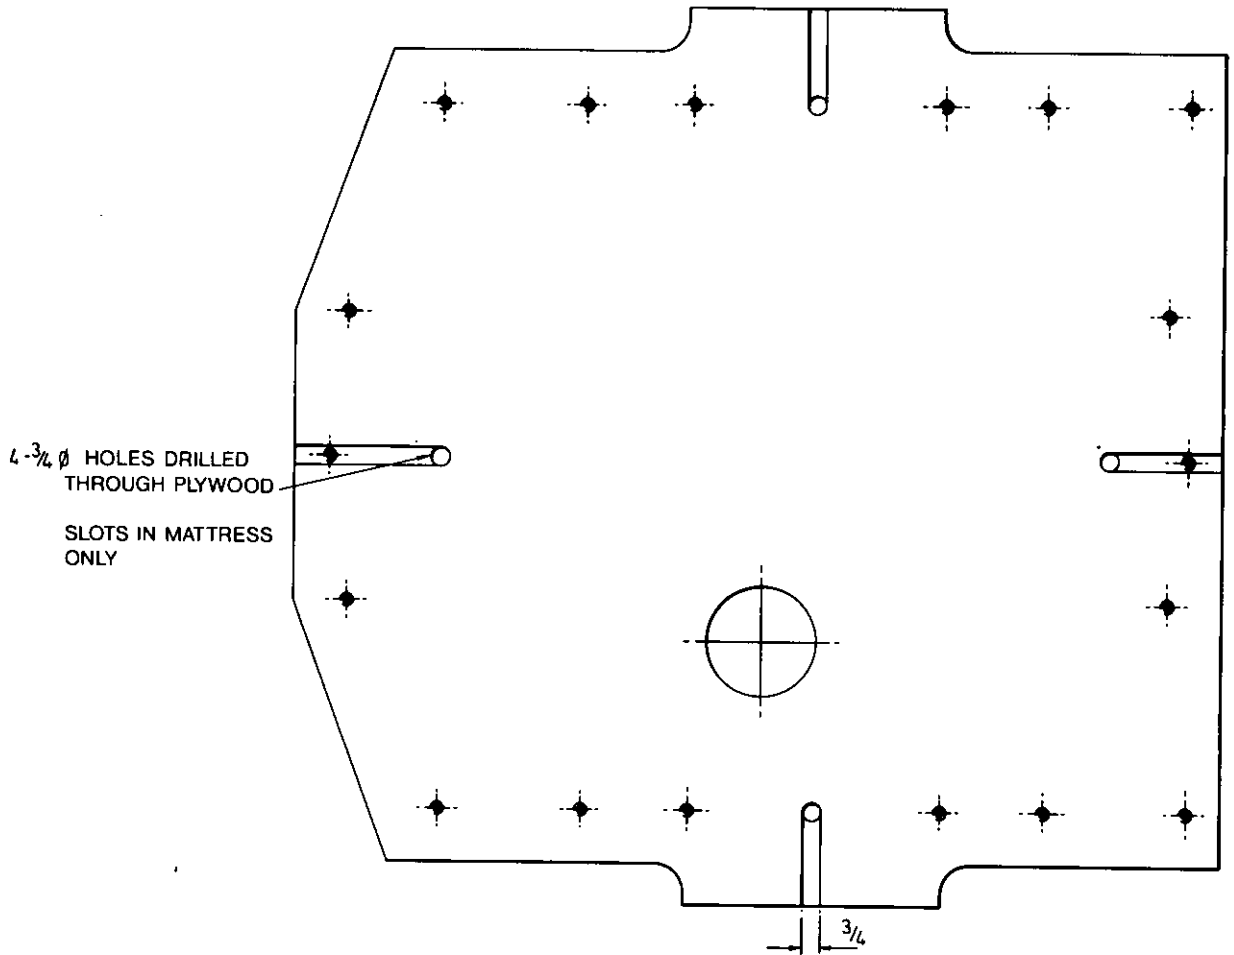

Fig 2 - Shock absorber mattress - hole and slots detail
c. Cut slots in the mattress from the holes to the outer edges as shown in Fig 2.